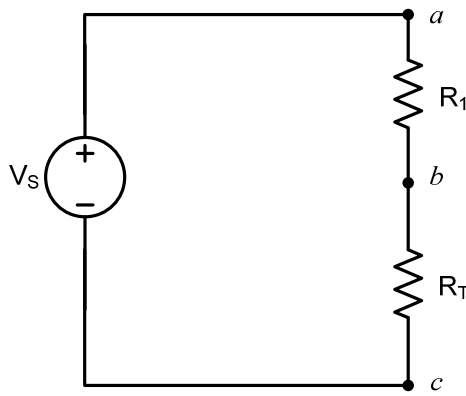

Figure 1. Voltage divider circuit.
- **Main idea:** by adding another (comparator) voltage divider in parallel to that shown in Figure 1, one could use differential voltage measurements that could improve the sensitivity in sensor applications, while at the same time reducing current flow through component R_T . (High electrical currents increase heat in resistors and may introduce significant measurement errors).